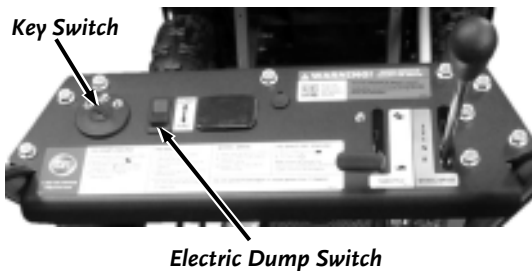

Figure 37
4. Hold the Electric Dump Switch in the upper “DUMP” position, to raise the Bed to empty it (**Figure 37**).